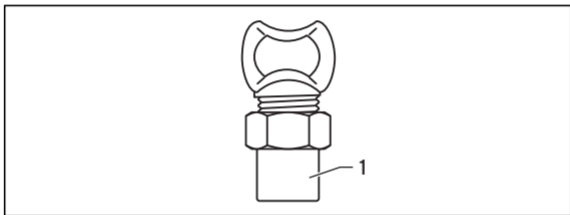

Fig. 3.1 Gas isolation cock in angle design
- The gas isolation cock must be fitted with the socket supplied (1, Fig. 3.1 and 3.2). When replacing the item, the gas isolation cock and the socket must be replaced.**